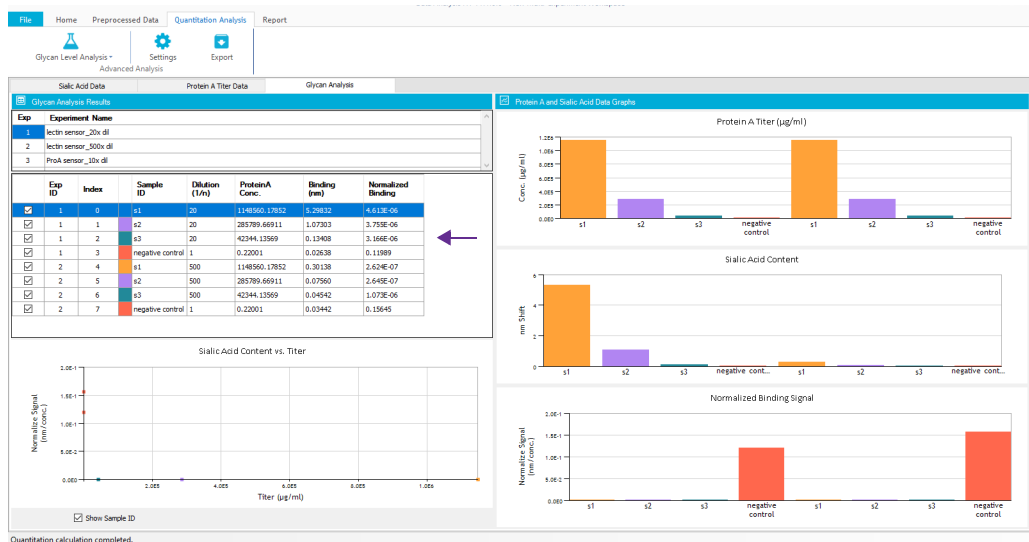
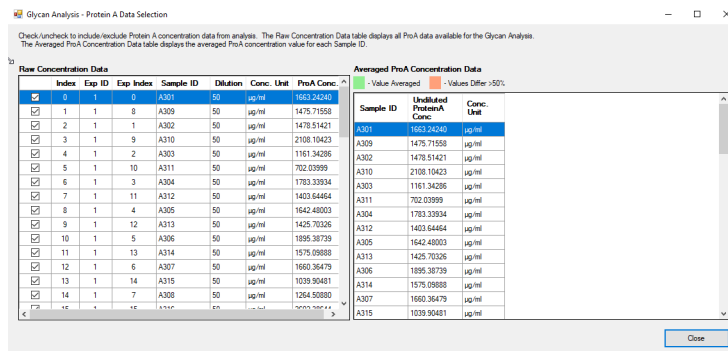

Figure 3-4: Picking Glycan Analysis Data
Figure 3-5: Raw Concentration Data
8. Pick the glycan analysis data with desired dilution factors by checking or unchecking the box next to the rows in the table (Figure 3-4). The top graph on the right shows the titer information for all the samples, the middle graph is the Sialic Acid content of the samples and the bottom graph is the normalized binding signal (sialic acid content divided by the titer info for each sample).
- Click  (Settings) if a sample had multiple dilutions in the quantitation assay and one of the dilutions needs to be excluded (Figure 3-4). You can then exclude data in the Raw concentration data table (Figure 3-5).